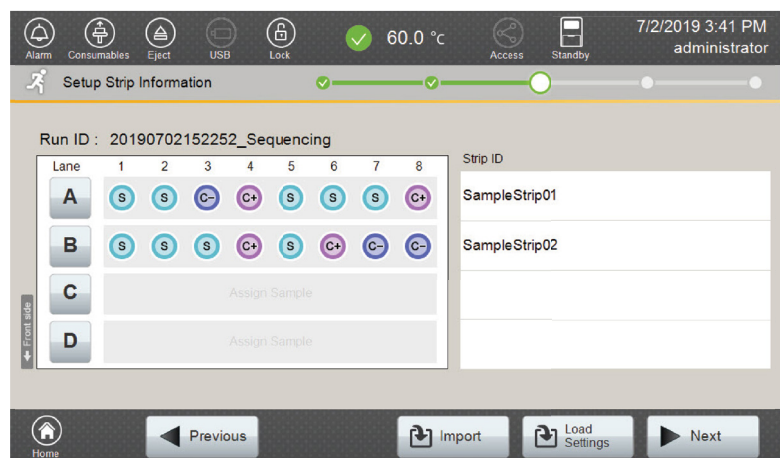

Figure 92. Completed 'Setup Strip Information' screen.
- After all the required lanes have been set up, select **Next** on the 'Setup Strip Information' screen (Figure 92).